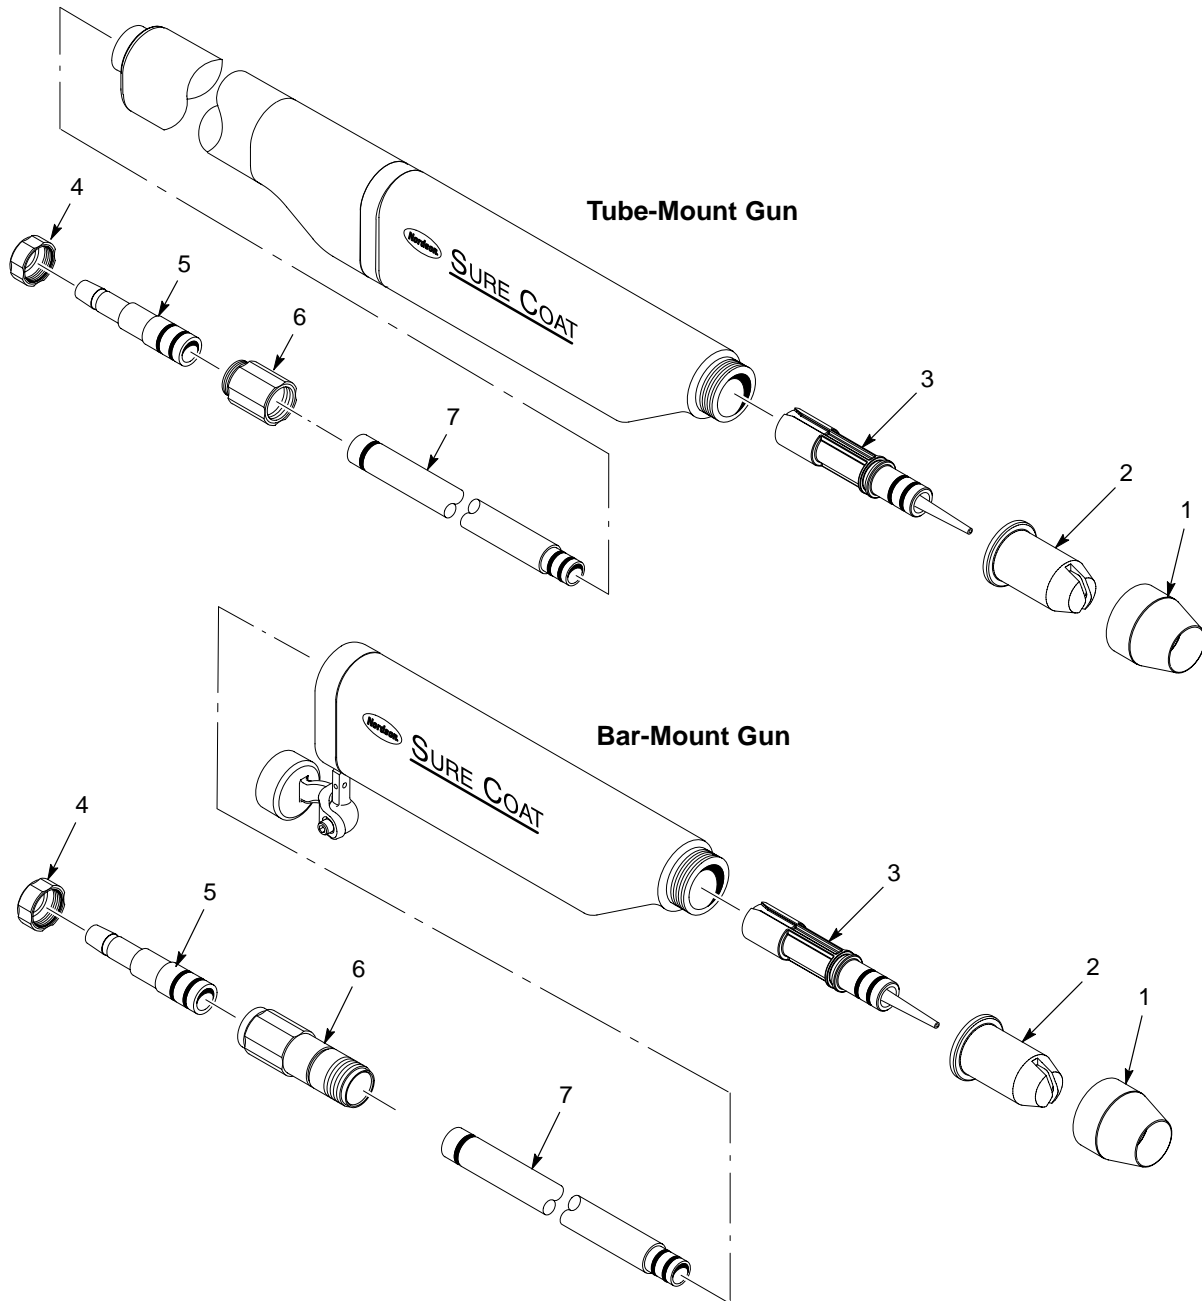

Figure 1 Removing Standard Gun Parts
1. See Figure 1. Remove the spray gun nozzle nut and nozzle.